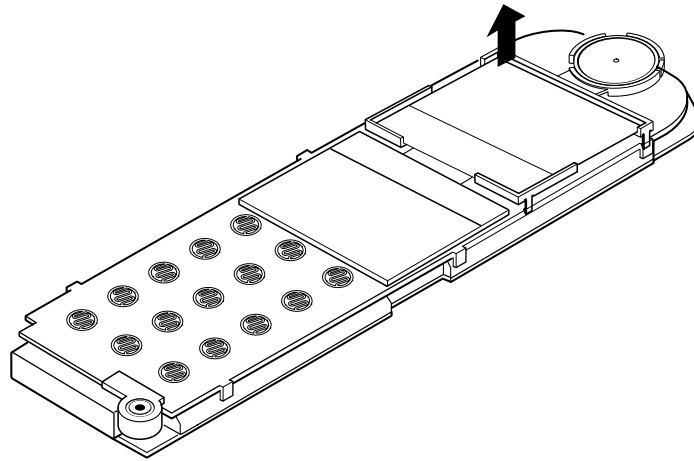

Figure 10: LC earpiece holder removal
10. Figure 10 Gently bend the lugs on the LC earpiece holder outwards and lift it from the logic C